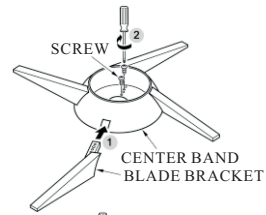

FIG.1
1. Insert the blade arm into the center band and tighten the screw to assemble the blade arm and center band together. (See Fig.1)